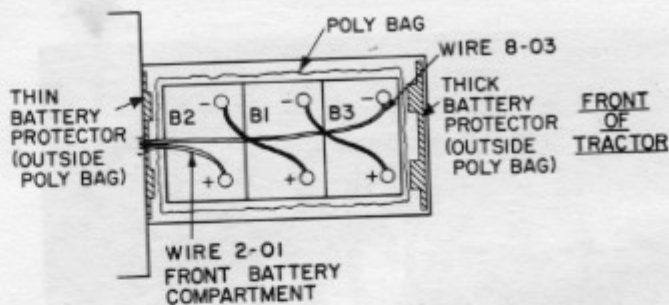

Figure 26
5. Place a **thin** vacuum-formed battery protector between the poly bag and the rear wall of the compartment and a **thick** protector in similar fashion at the front of the compartment. Position the protectors so their corrugations will face the battery walls. (See Figure 26.)
6. Connect the battery cables in accordance with Figure 26. Observe clamp polarity markings. Coat the terminals **after** connections are made with a thin film of Battery Terminal Protective Grease. **Make sure all surfaces are coated!**